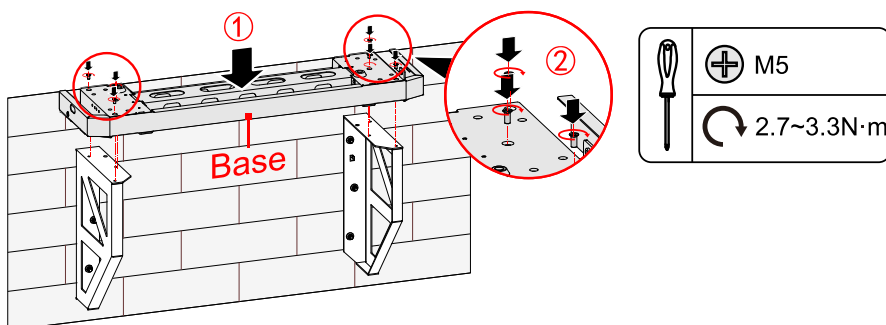

Figure3-16 Assemble the support and base
5. Assemble the support and base by screws M5, as shown in Figure3-16.